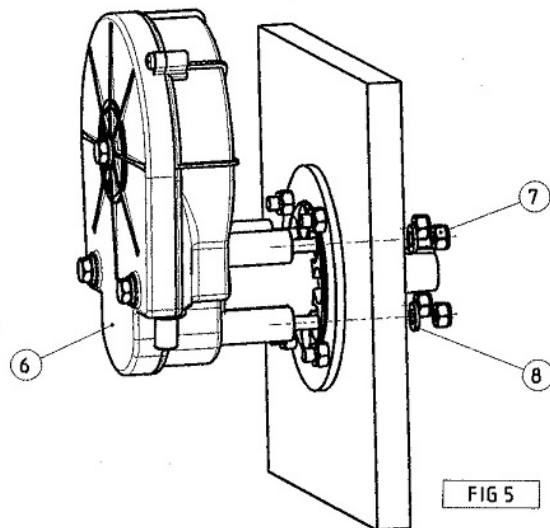

FIG 5
- Insert the steering box ( 6 ) in the special flange seats (see Fig. 5 and 6 ), positioning it as allowed by the clearances (it is possible to mount the box in 8 different positions, at intervals of 45°).
- Fasten the stud with n° 4 self-locking nuts (7), n° 4 washers (8), tightening them crosswise.